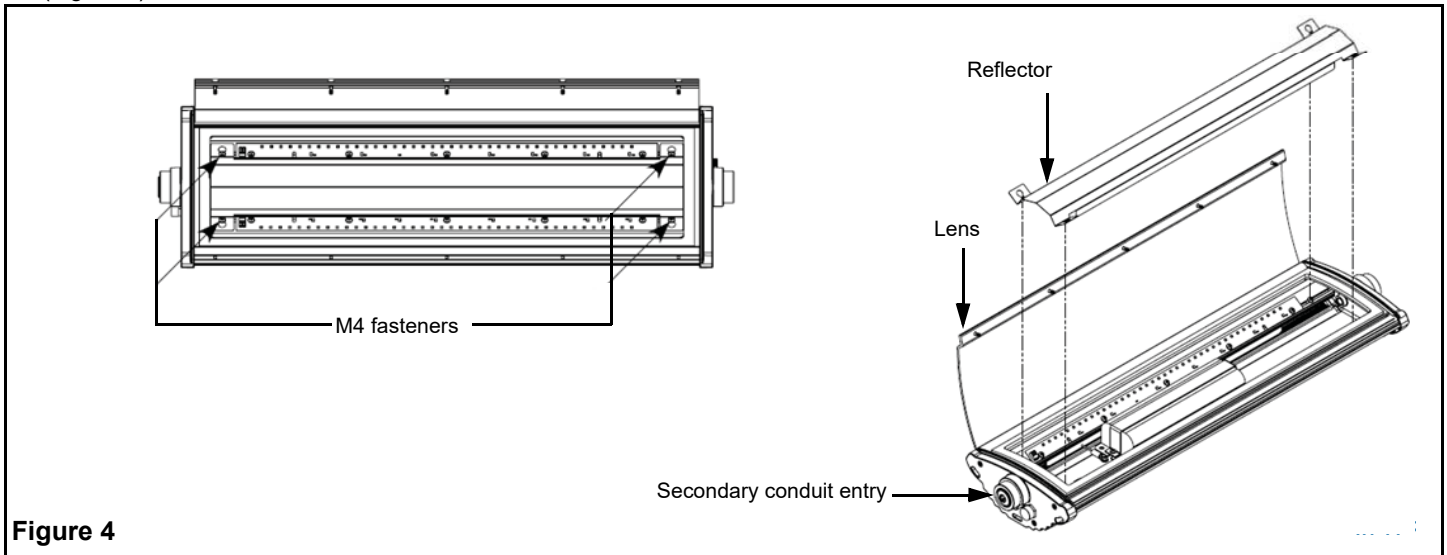

Figure 4
2. Loosen four M4 fasteners holding reflector and pinch the reflector to line up key hole slots with fasteners and remove reflector (Figure 4).